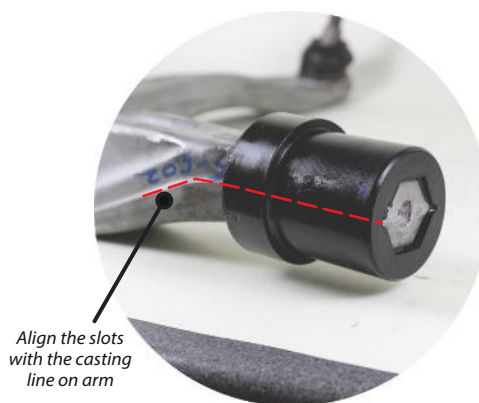

Figure 1
4. Fit polyurethane part A onto the spigot, with the lip of the bush being pushed in first. **Make sure to align the slots in the bore of part A with the casting line on the arm, as shown in Figure 1.**